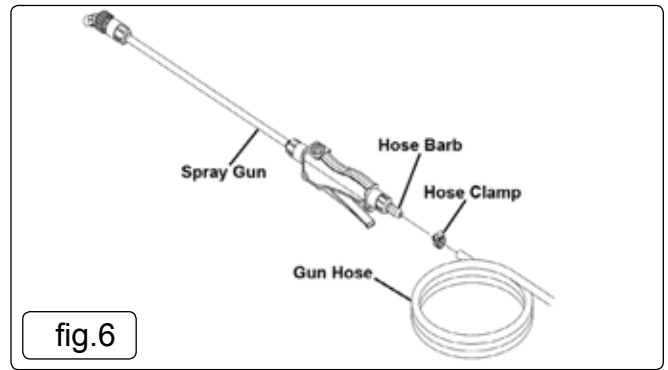

fig.6
- 5.5. Attach Hose to Spray Gun (see fig.6)